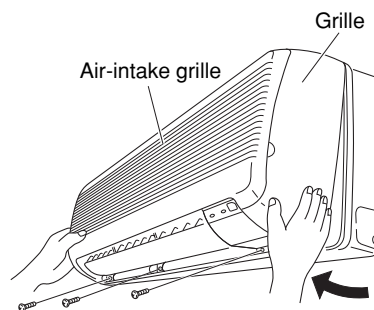
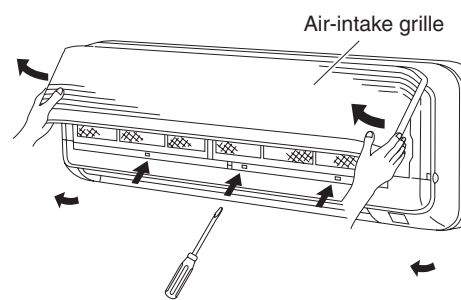

Fig. 3-28a
Fig. 3-28b
- (1) Set the 2 flaps in the horizontal position.
- (2) Unscrew the 3 screws. (Fig. 3-28a)
- (3) Remove the grille.
- (a) Hold both corners of the air-intake grille, then pull out and up to open. (Fig. 3-28b)
- (b) Use a flathead screwdriver to push up the 3 tabs to remove the grille. (Fig. 3-28b)
- (c) Pull the lower part of the grille toward you to remove. (Fig. 3-28a)